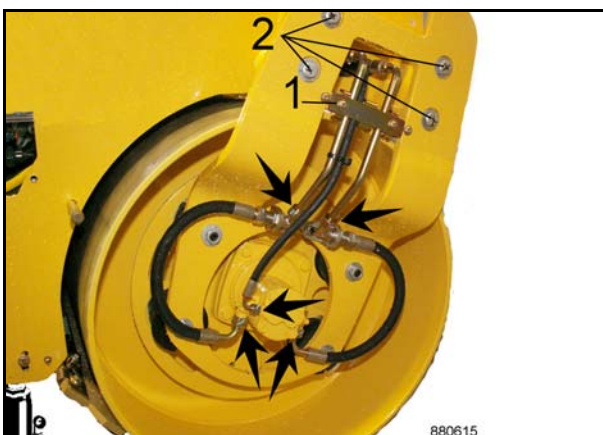

Fig. 3
4. Disassemble the bracket 1 (Fig. 3).